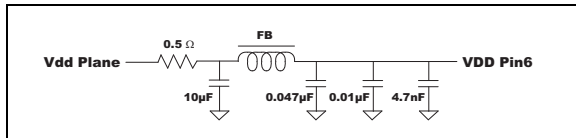

FIGURE 5-1: Recommended Power Supply Filtering.
- Use the power supply filtering shown in Figure 5-1 for V_{DD} .